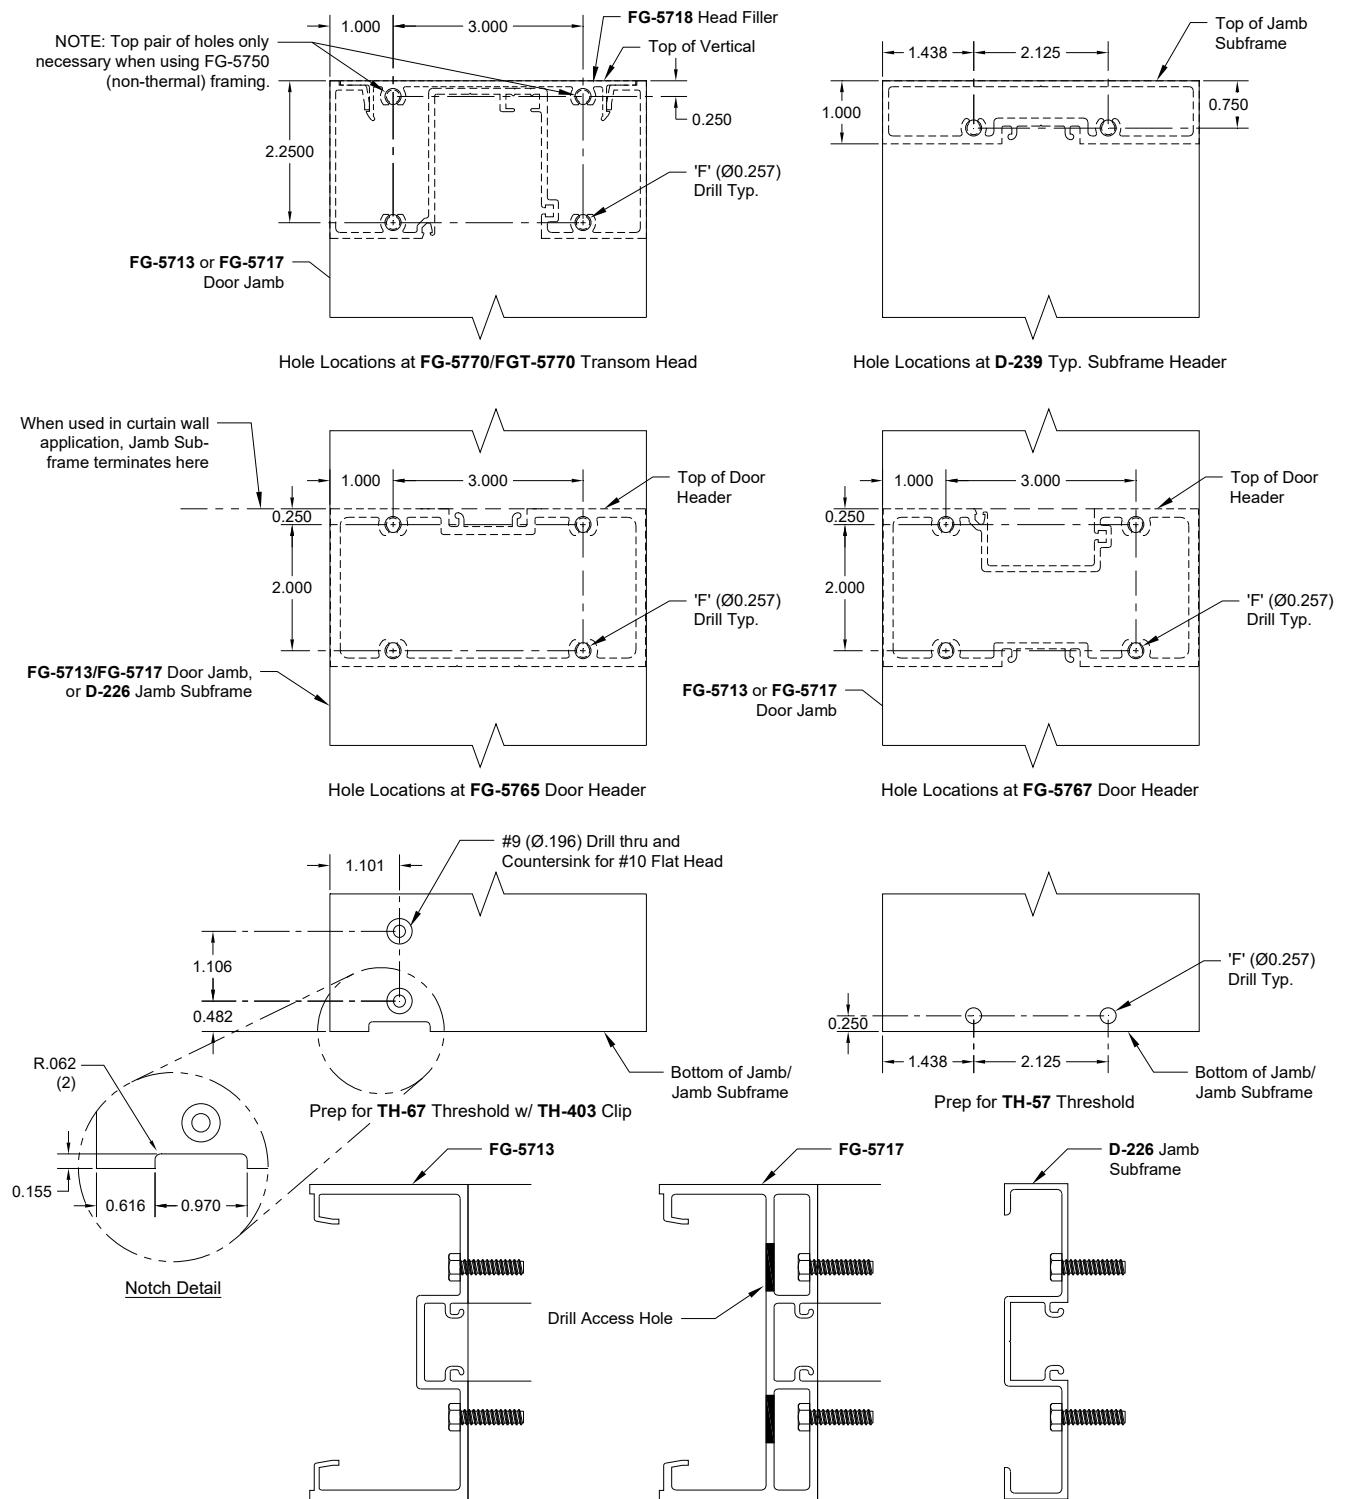
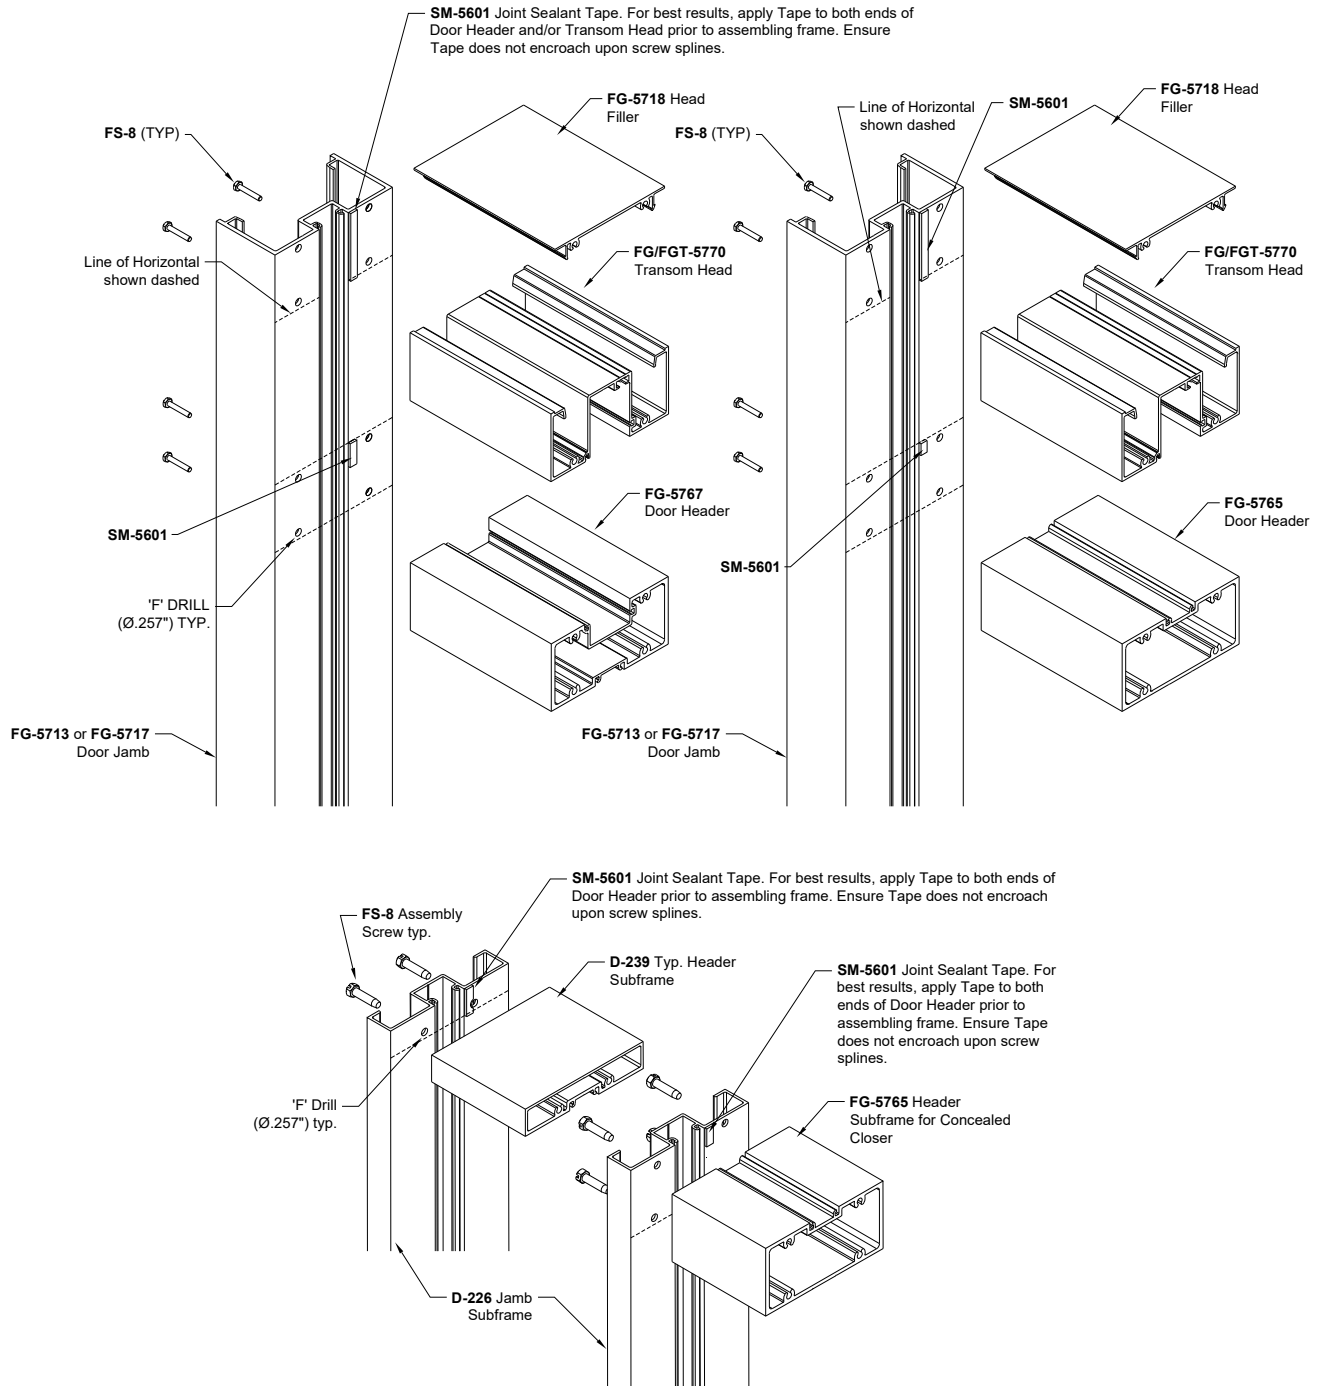

Figure 8: Door Jamb / Jamb Subframe Fabrication
Figure 11: Rugged StormMax® Entrance Frame & Subframe Header Assembly
- 1.4.3 Prep Door Jamb for the Door Header and/or Transom Head Horizontal. This should be made using either DJ-5750 drill fixture or EZ-Punch die set for FG-5750/FG-5750T framing. Reference *Figure 8* for visual detail.
- 4.1 Reference *Figure 11* to assemble **FG-5713** or **FG-5717** Door Jamb to Door Head and Transom Head (if applicable). Apply **SM-5601** 1/8" x 1/2" Joint Sealant Tape to joint intersections at Door Header or Transom Bar and Transom Head Horizontal and assemble with **FS-8** fasteners. When using **FG-5717**, drill access holes for assembly screws per *Figure 8* on Page 18.
- 4.2 **TH-57** Threshold will attach directly to Door Jambs with **FS-8** into screw splines of Threshold. Apply **SM-5601** Joint Sealant Tape to both ends of Threshold prior to frame assembly. Take care to ensure screw splines remain unobstructed. Use a razor knife to trim Tape around contour of Threshold; never attempt to trim by pulling or tearing. Again, when using the **FG-5717** Jamb, drill access holes for attachment similar to *Figure 8* on Page 18. Reference *Step 6.3* on Page 24 for information regarding the **TH-60** Threshold Anchor Stabilizer.
Reference Section 4.0, Steps 4.1 - 4.3, following the same procedure and attaching Header Subframe to Jamb Subframes with **FS-8**. Substitute **D-226** Jamb Subframe for Door Jambs described therein. Reference *Figure 11*.